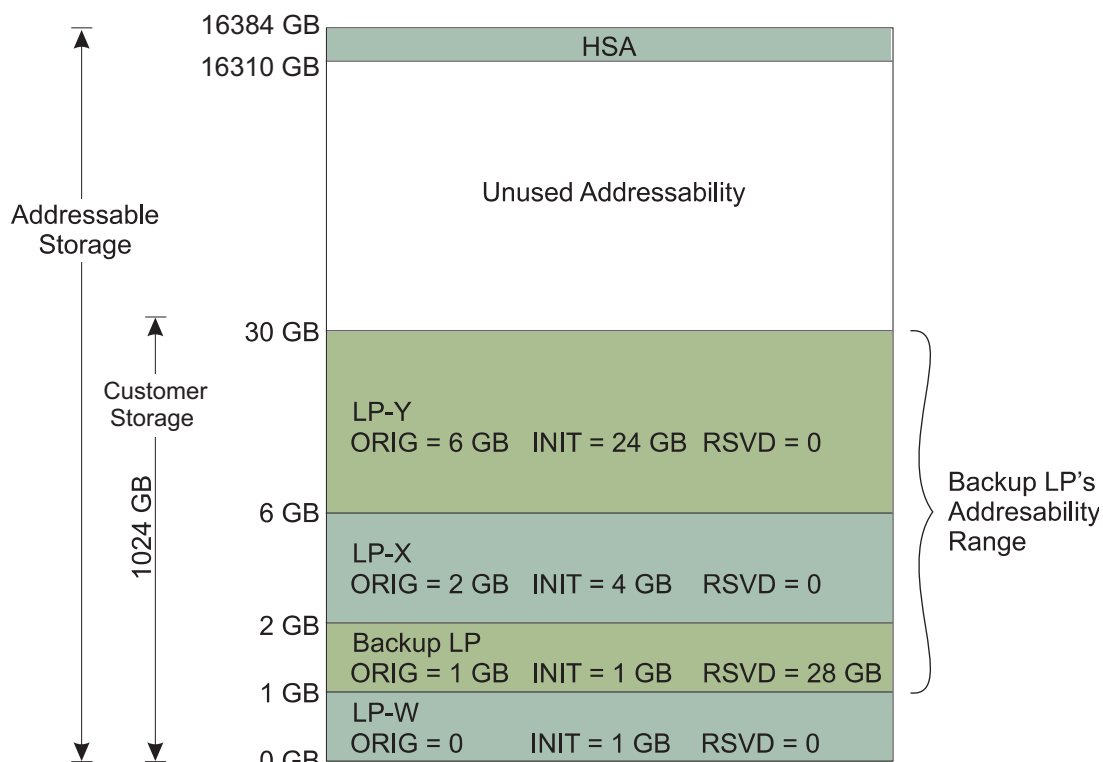

Figure 31. Backup partition layout before nonspecific deactivation
**Specifying an Origin:** Assume that the backup partition has specified an origin, minimal initial storage, and a large amount of reserved storage. Since the backup system does not own its complete addressable range, two other partitions, are defined in the reserved storage of the backup partition. See Figure 31 on page 112 for the storage layout before nonspecific deactivation.